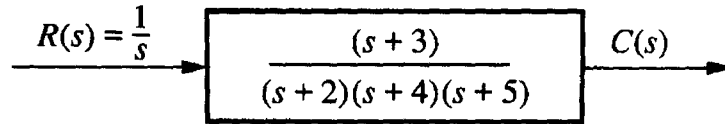

Figure 1
**Question #1** (15 marks) Given the system in Figure 1,